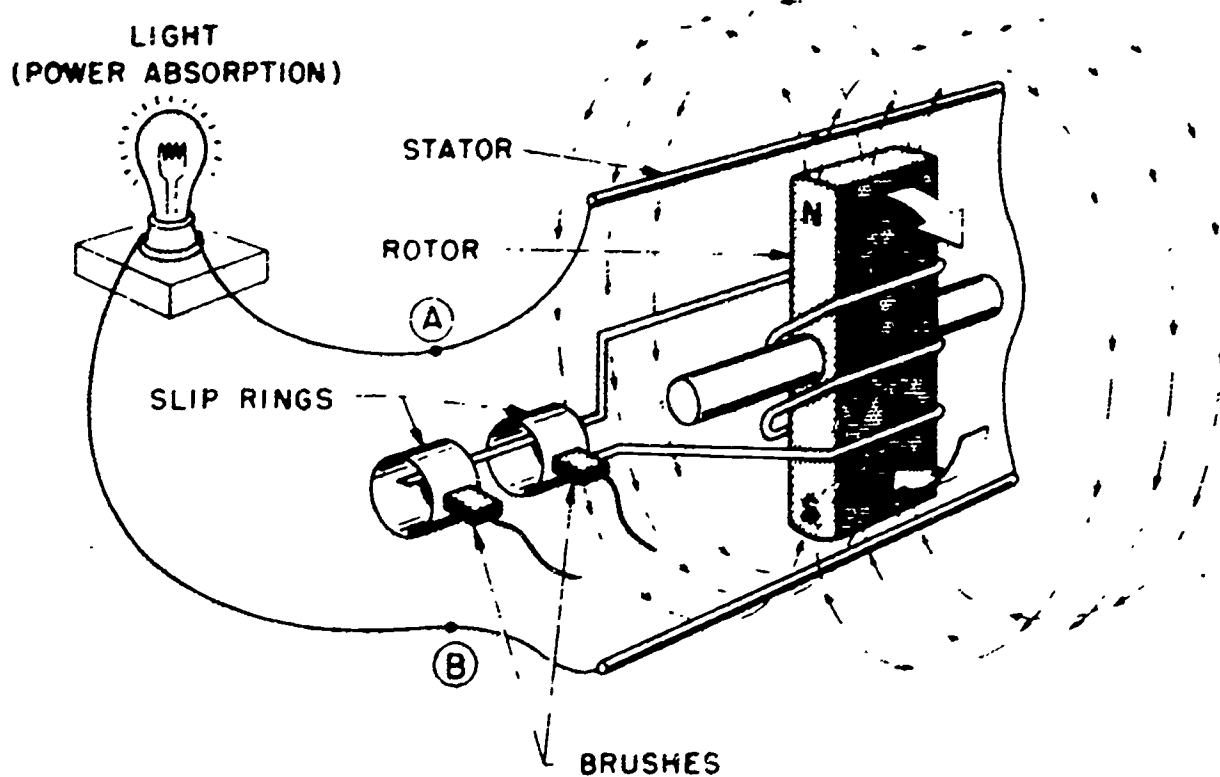

Fig. 4 Simplified alternator
THE ALTERNATOR -- The basic principle of electrical generation for the **ALTERNATOR** is the same as for the DC generator -- relative motion between a magnetic field and a conductor causes voltage to be induced in the conductor. In a DC generator, the magnetic field is stationary, and the conductors are moved so that they cut across the lines of magnetic force. In an alternator, the magnetic field is moved so as to cut across the stationary conductors. The direction of electricity flow in the conductor will depend on whether the lines of force cut the conductor when they come out of one end of the magnet (north pole), or when they pass back into the other end of the magnet (south pole). See Figure 4.
In Figure 4, the north pole is at the top and the south pole is at the bottom, so the flow of current is from point (A) to point (B). When the magnet is rotated 180 degrees, the south pole will be at the top and the north pole will be at the bottom. During this part of the cycle, the lines of force are cutting the conductor in the opposite direction and the induced voltage will cause current to flow from point (B) to point (A). Thus, current will flow through the loop first in one direction, and then in the other, in a reversing pulse or AC.